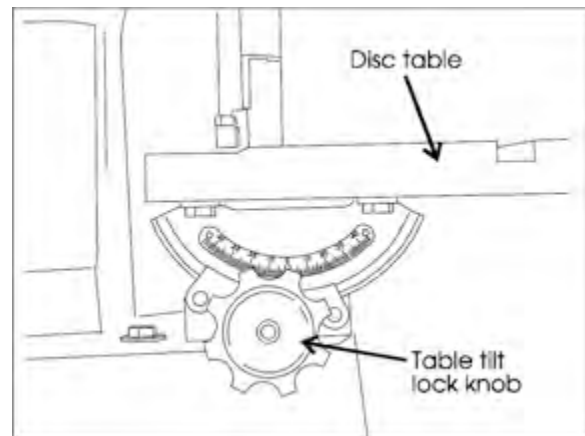

Figure 18: Disc table lock knob
3. Remove the table tilt lock knob (Figure 18).